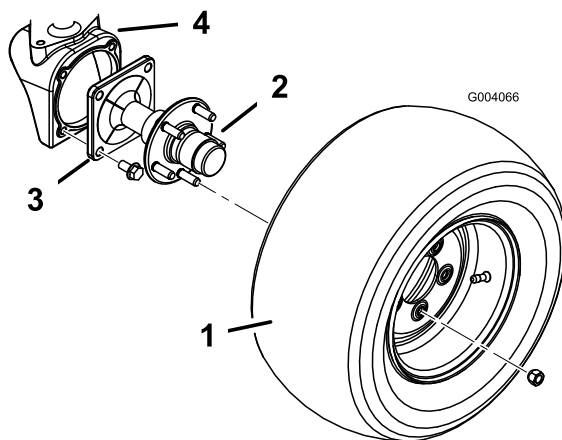

Figure 1
3. Remove the 4 flange bolts securing each wheel spindle to each wheel housing (Figure 1). Remove the wheel spindles. The wheel hub does not need to be removed from the spindle.
2. Remove the 5 lug nuts securing each rear tire to the wheel spindle hub (Figure 1). Remove the tires.